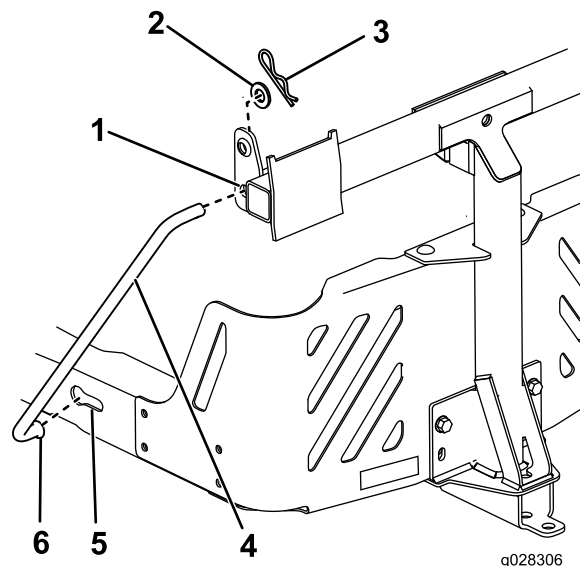

Figure 13
4. Install the bent, flared end of a rod into the keyed slot in the left side of the machine frame, and move the rod rearward to seat it in the frame (Figure 13).
5. Insert the bent ends of the rods into the attachment mount as shown in Figure 13 and secure the end of each rod with a washer and hairpin cotter.